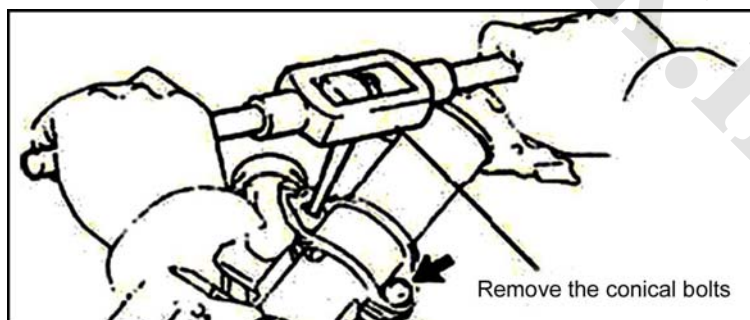

Fig. 2-35
- ② Remove the bolt and intermediate shaft.
- 17) Dismantle the switch support from the steering column, as shown in Fig. 2-35.